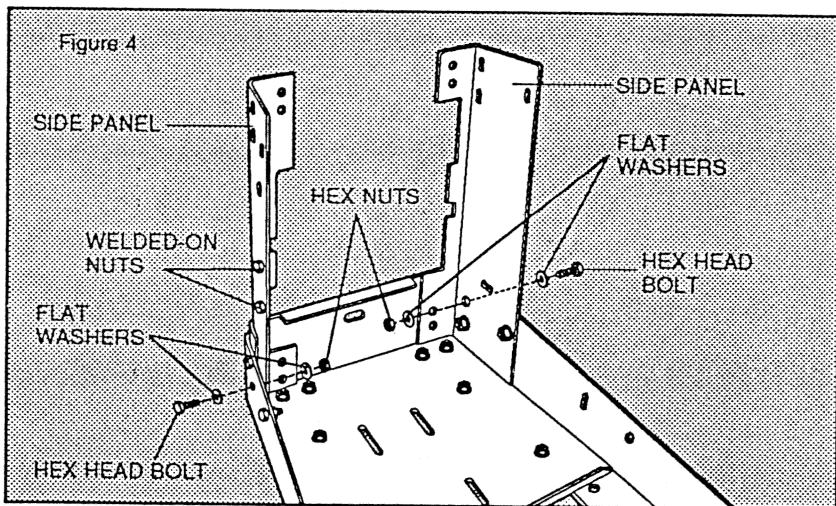

Figure 4
Attach the 2 Side Panels to the Legs using 1/4" x 5/8" Hex Head Bolts, Flat Washers & 1/4" Hex Nuts (3 for each Side Panel). **IMPORTANT:** Side Panels must be positioned inside of Legs and Motor Support Plate. See Figure 4.
**Note:** The Side Panels are not identical to each other. One has welded-on nuts. The Side Panel with welded-on nuts must be positioned to the left as shown in Figure 4.